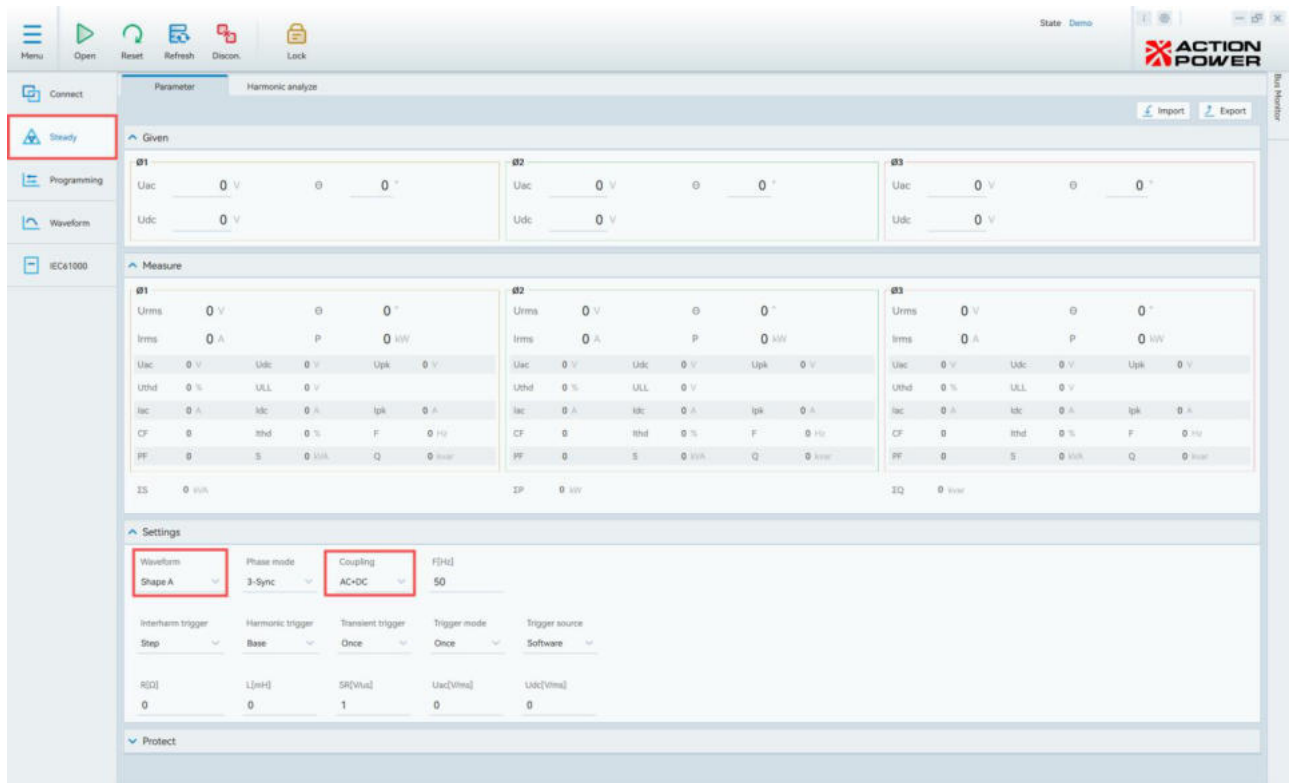

Figure 6.3.4 Steady-state output waveform using Waveform A
- Select waveforms ABC during steady-state or programming to output the retrieved waveform. See Figure 6.3.4 for an example